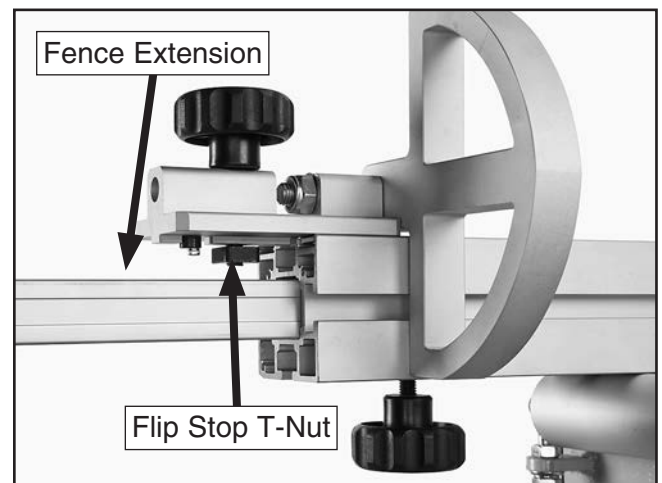

Figure 49. Flip stop attached to crosscut fence.
45. Slide crosscut fence extension out, as shown in **Figure 49**.
46. Attach flip stops onto long side of crosscut fence by sliding T-nuts into T-slots on fence and tightening the knob bolts (see **Figure 49**).